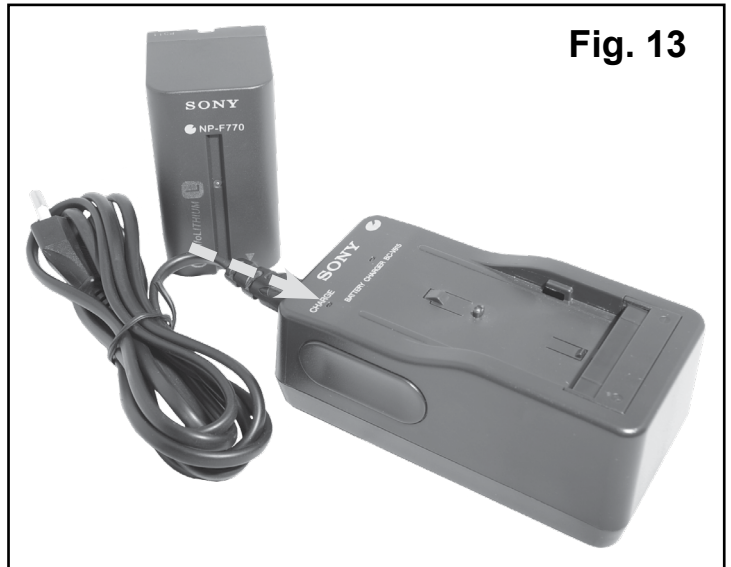

Fig. 13
1. Connect AC/DC Adapter plug to the charger (Fig. 13).